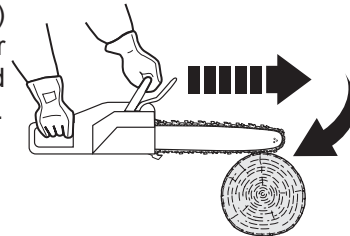

Fig. 38
- > Pinching of the saw chain (3) along the bottom of the guide bar (4) may pull the product forward away from the operator (Fig. 38).